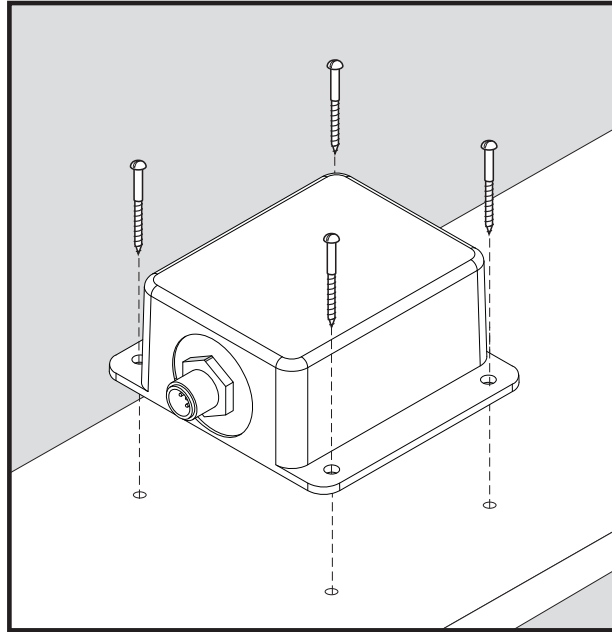

Figure 1 – Mounting the J2K100
Attach the J2K100 securely to the vessel using the included brass mounting screws or other fasteners as shown in Figure 1 below. Do not use threadlocking compounds containing methacrylate ester, such as Loctite Red (271), as they will cause stress cracking of the plastic enclosure.